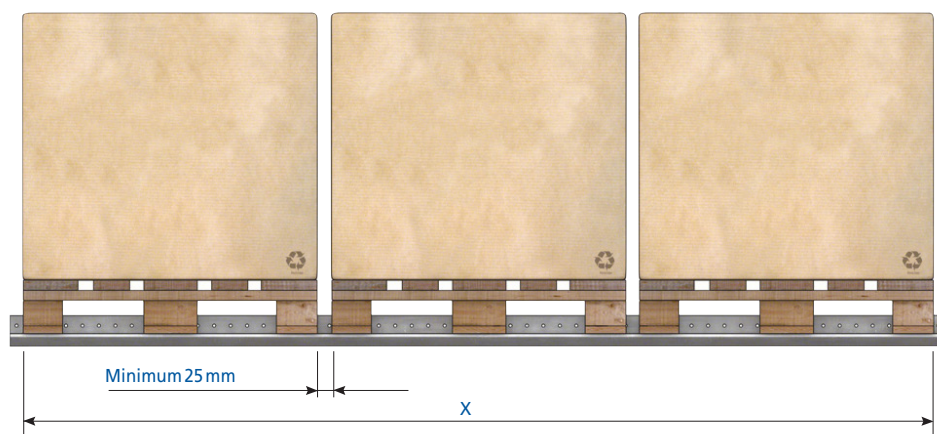

Figure 4
- X: the total depth of all the pallets (including the load's dimension, if it protrudes), plus a 25 mm clearance per unit load, as a minimum (figure 4).
For depth clearances, use the same criteria used with the GP rail (figure 4).